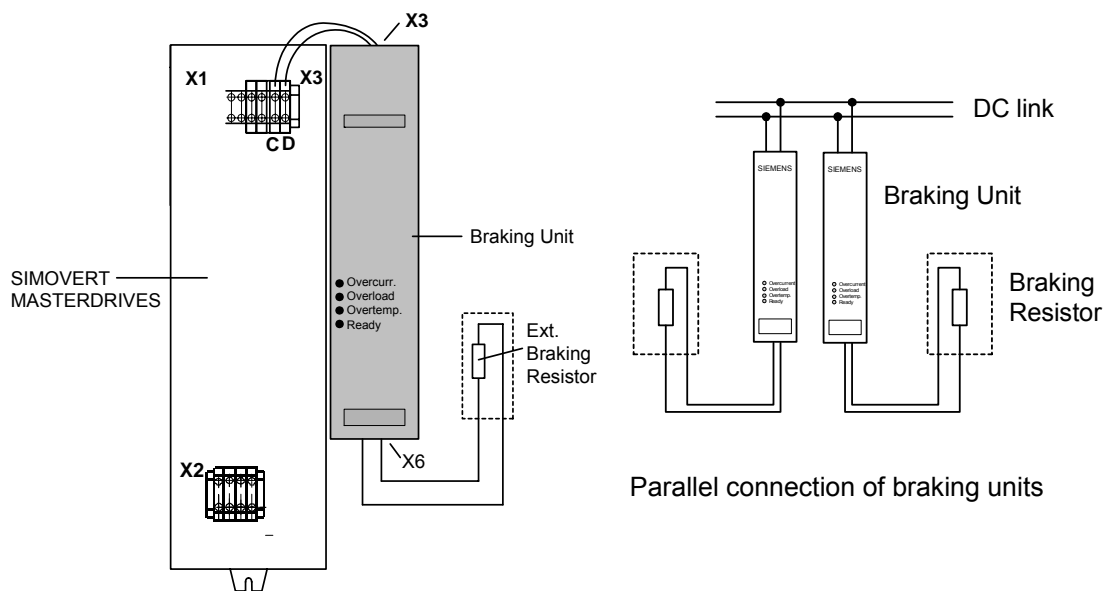

Fig. 3-3 Connection of the braking unit
- Connect the terminals C/L+ and D/L- (top side of the braking unit) or the busbars to the terminals C/L+ and D/L- of the drive (see Fig. 3-3).